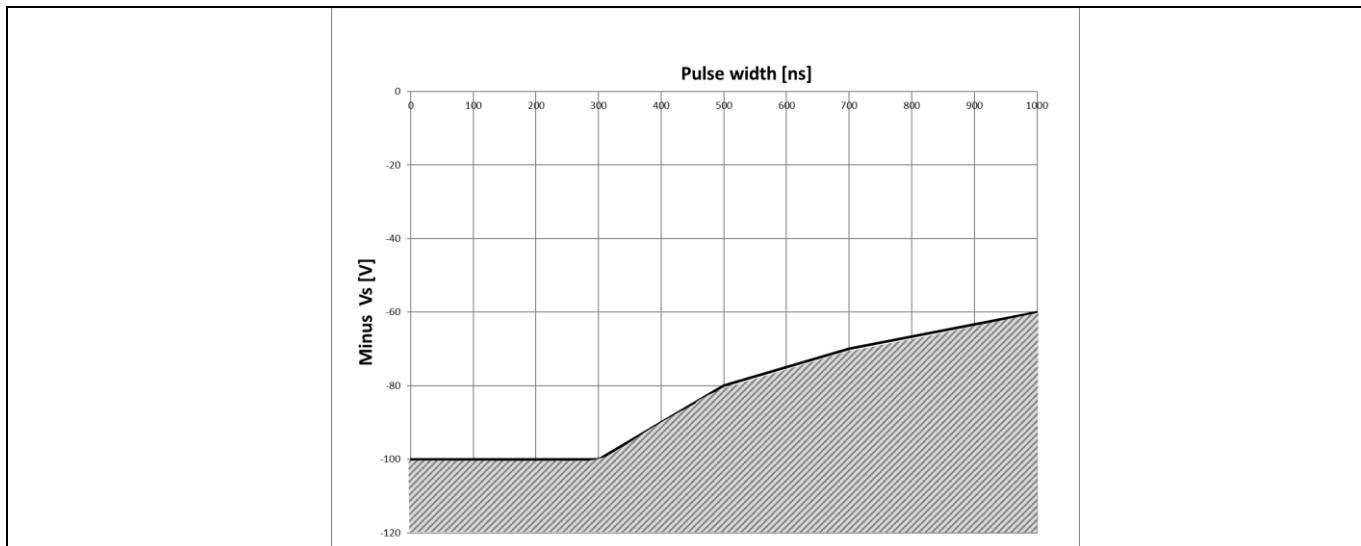

Figure 22 Negative VS transient SOA for 2ED2109 (4) S06F (J) @ VBS=15 V
Infineon's HVICs have been designed for the robustness required in many of today's demanding applications. An indication of the 2ED2109 (4) S06F (J)'s robustness can be seen in Figure 22, where the 2ED2109 (4) S06F (J)'s Safe Operating Area is shown at $V_{BS}=15$ V based on repetitive negative VS spikes. A negative VS transient voltage falling in the grey area (outside SOA) may lead to IC permanent damage; viceversa unwanted functional anomalies or permanent damage to the IC do not appear if negative Vs transients fall inside the SOA.